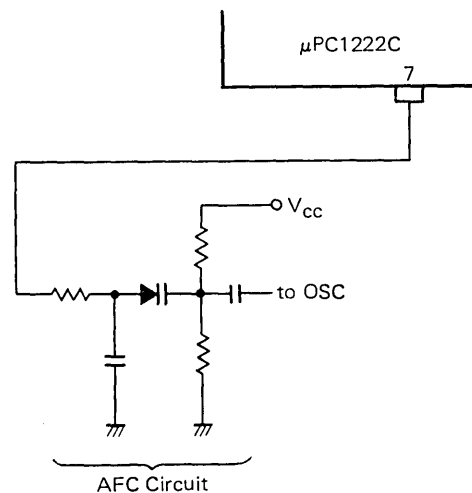

Fig. 2-b AFC circuit in the American and European systems
In these cases, if an (R) type is used for an American or European system, its AFC circuit can be as that shown in Fig. 2-a.